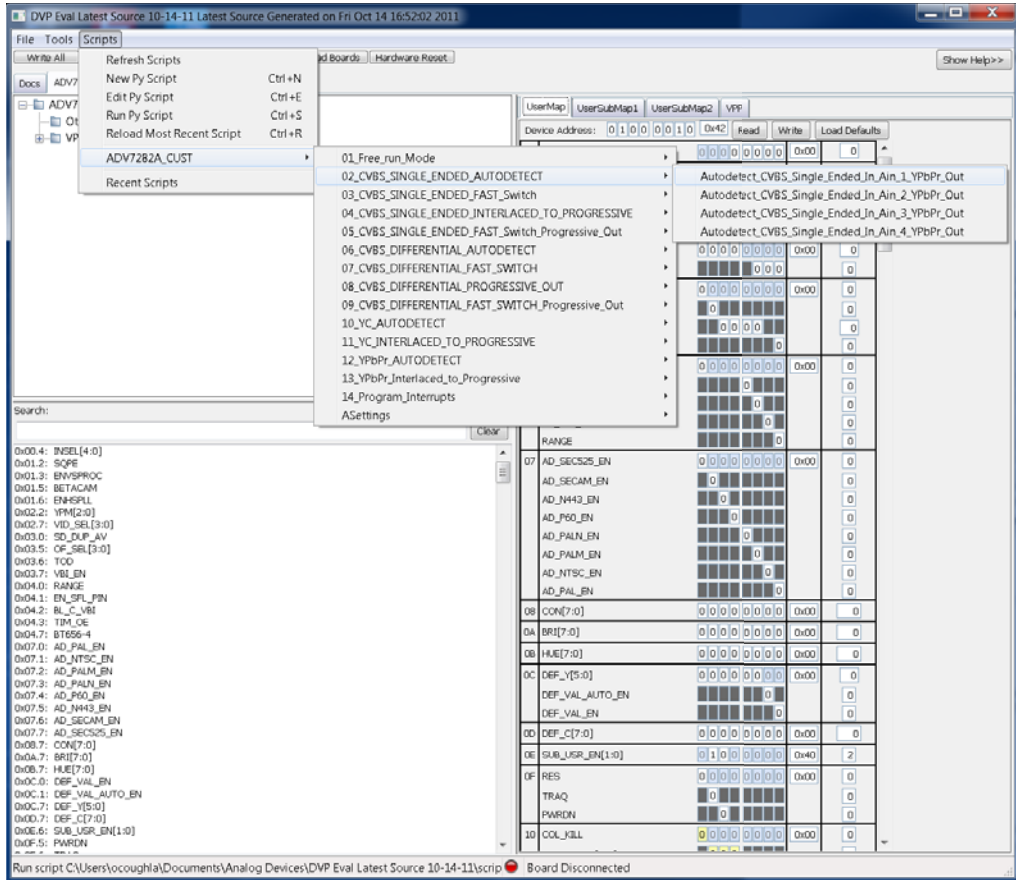

Figure 8. Running ADV7282A Script on DVP Eval Software
5. Select **Scripts > ADV7282A_CUST** to select and run a script to configure the evaluation board (see Figure 8).
6. To monitor the registers of the **ADV7282A** or the **ADV7391**, click on the associated device tab within the **DVP Eval Software** (see Figure 8).